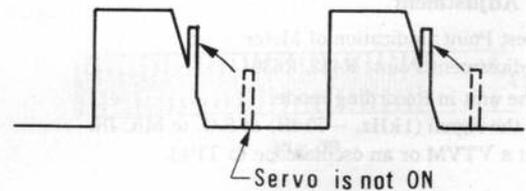

Fig. 12
4. Fully turn R1120 counterclockwise, and then gradually return it clockwise to set it just after the pulse of TP24C locks on trapezoid waveform of TP25C as shown in Fig. 12.